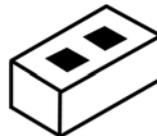

Figure 4.4: A Typical Jumper Plug
**NOTE:** Pins are jumpered by pushing a small jumper plug (included with the hard drives) over the two pins. A jumper plug (Figure 4.4) is a metal bridge that closes an electrical circuit.